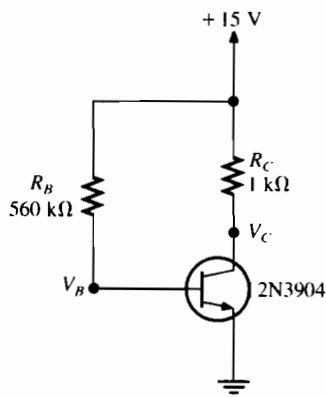

FIGURE 9-1 Schematic diagram of circuit.
1. For the circuit of Figure 9-1, if $\beta = 150$, then I_B is
2. If β of the transistor in the circuit of Figure 9-1 increases, then
3. If R_B is made smaller in the circuit of Figure 9-1, then
4. The collector saturation current for the circuit of Figure 9-1 is approximately
5. At cutoff, the collector-to-emitter voltage for the circuit of Figure 9-1 is